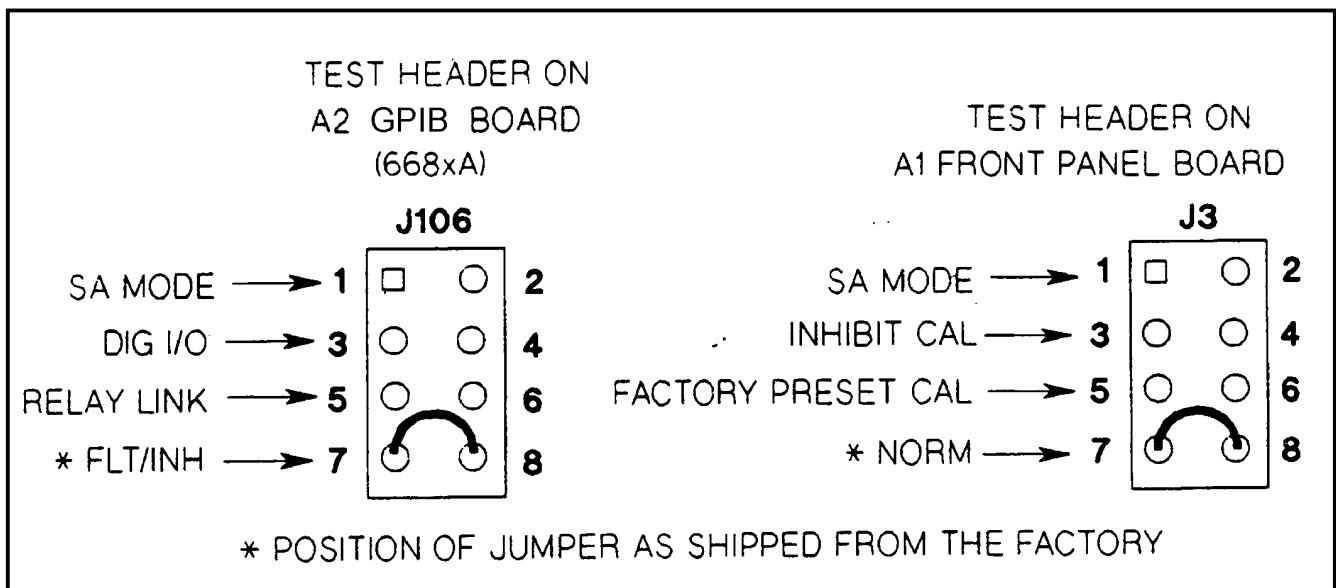

Figure 3-14. Test Header Jumper Positions
10. Pulses should be present on both sides of inductors L201-204 or L301-304 and L213-216 or L313-316 as follows:  Check the pulses on the driver transistor side (Q251-Q254/Q351-Q354) of each inductor.  Check the pulses on the FET regulator side (Q201-Q204, Q301-Q304, Q211, Q311, Q222, Q322, Q233, Q333 and Q244, Q344) of each inductor.  If the waveforms do not have the fast step as shown in Figure 3-14, then the associated FET gate input has an open circuit.	See Figure 3-14D.  See Figure 3-14E.